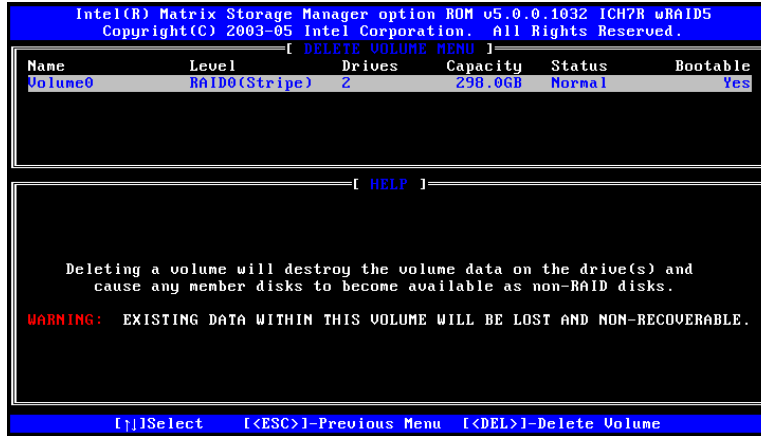

Figure F-9: Select RAID Volume to be Deleted
Step 2: Select RAID Volume to be Deleted. Use the arrow keys to highlight the RAID volume to be deleted and press ENTER. See Figure F-9.